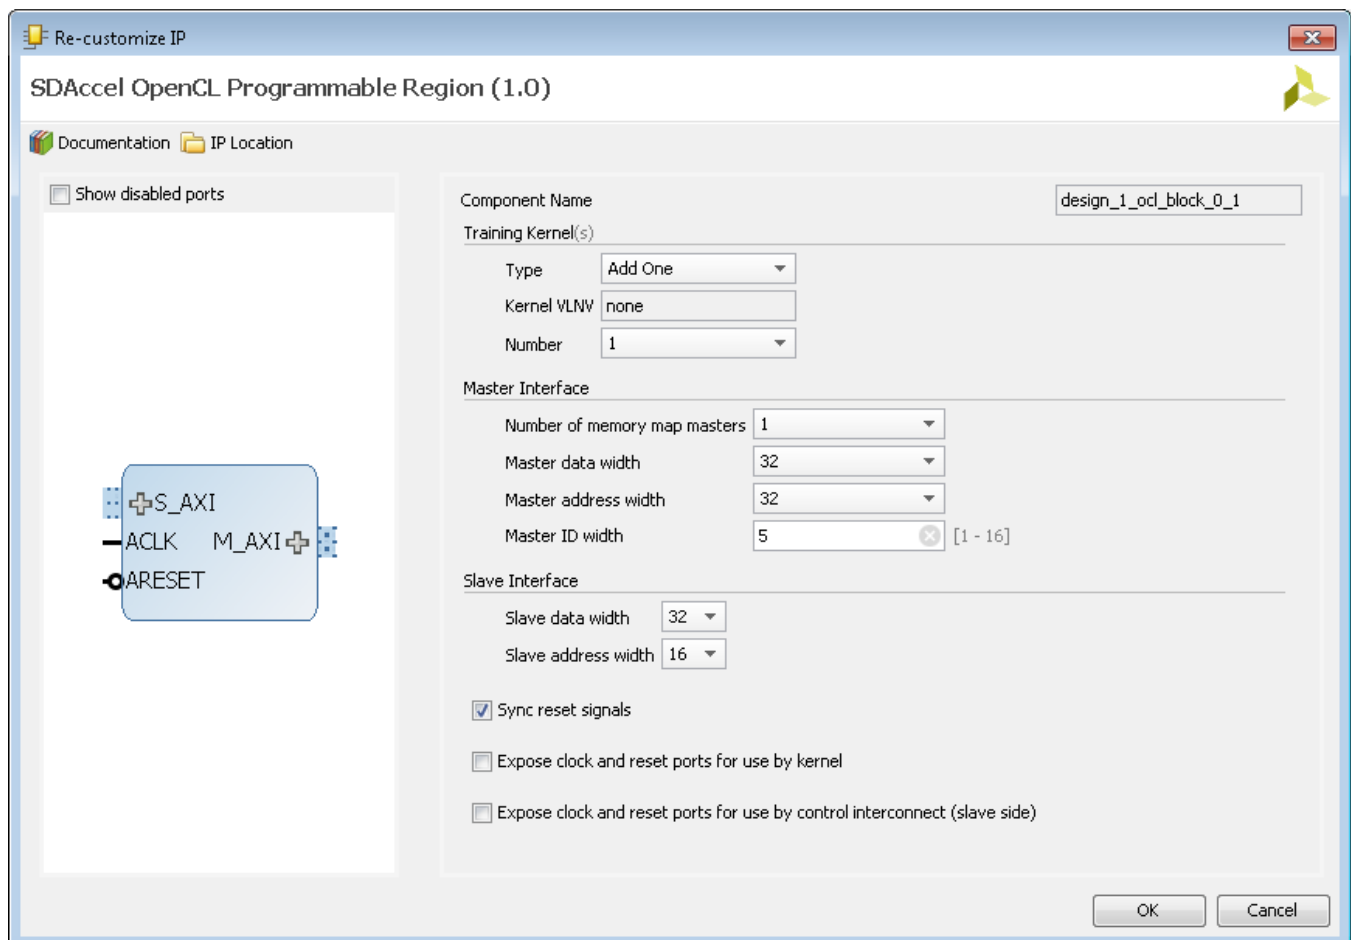

Figure 11: SDAccel OpenCL Programmable Region IP Configuration Options
2. Right-click on the IP and use the **Customize Block** command to open the Re-Customize IP dialog box to see the features of the IP core, as shown in Figure 11.
You must set the **Master ID width** on the Re-customize IP dialog box of the SDAccel OpenCL Programmable Region in order to support multiple kernels, as seen in Figure 11. The Master ID width field supports values from 1 to 16.